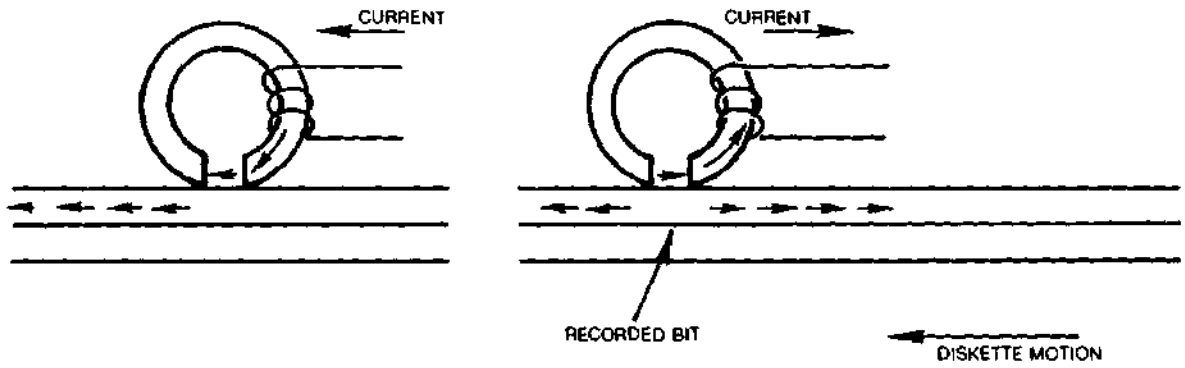

FIGURE 28. RECORDED BIT
**1.4.3** During a write operation, a bit is recorded when the flux direction in the ring is reversed by rapidly reversing the current coil. The fringe flux is reversed in the gap and hence the portion of the flux flowing through the oxide recording surface is reversed. If the flux reversal is instantaneous in comparison to the motion of the diskette, it can be seen that the portion of the diskette surface that just passed under the gap is magnetized in one direction while the portion under the gap is magnetized in the opposite direction. This flux reversal represents a bit. See Figure 28.